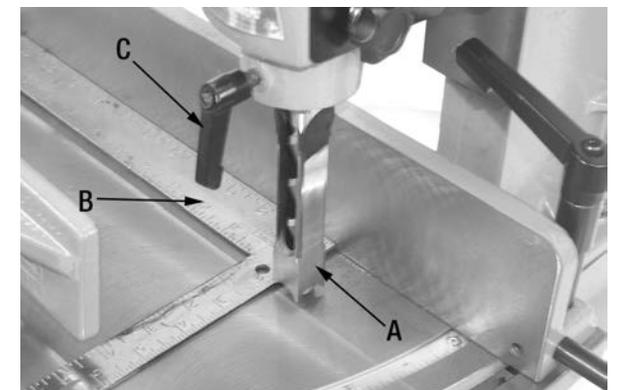

FIGURE 21
Once you are certain the fence is parallel to the table, now you can proceed with setting the chisel square with the fence. The easiest way to achieve this is to lower the head down to bring the chisel (A) Fig.21 as close to the table as possible. Use the head height stop bushing to hold it in this position. Place a square (B) against the fence and the side of the chisel, loosen chisel lock knob (C), set the chisel square and retighten lock knob.